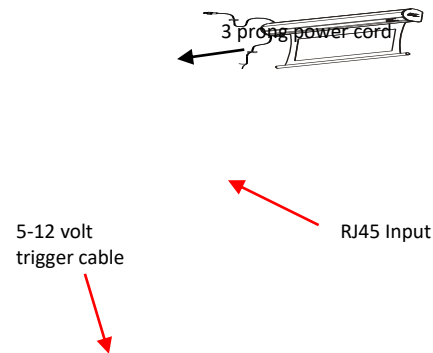

Fig.4
**5. 5-12 volt trigger (Item D, Fig 4):** The built-in 5-12V trigger input allows your screen to synchronize its drop & rise with the projector's power cycle. The screen deploys when the projector powers up and will retract when the projector powers down. The 5-12 volt RJ45 cable connects to your projector's trigger output via a separate cable that may or may not be provided by the manufacturer of the projector. The trigger feature will not work without an output cable from the projector, but it can be tested by connecting the Red (+) and Green (-) cable to a 9-volt battery.